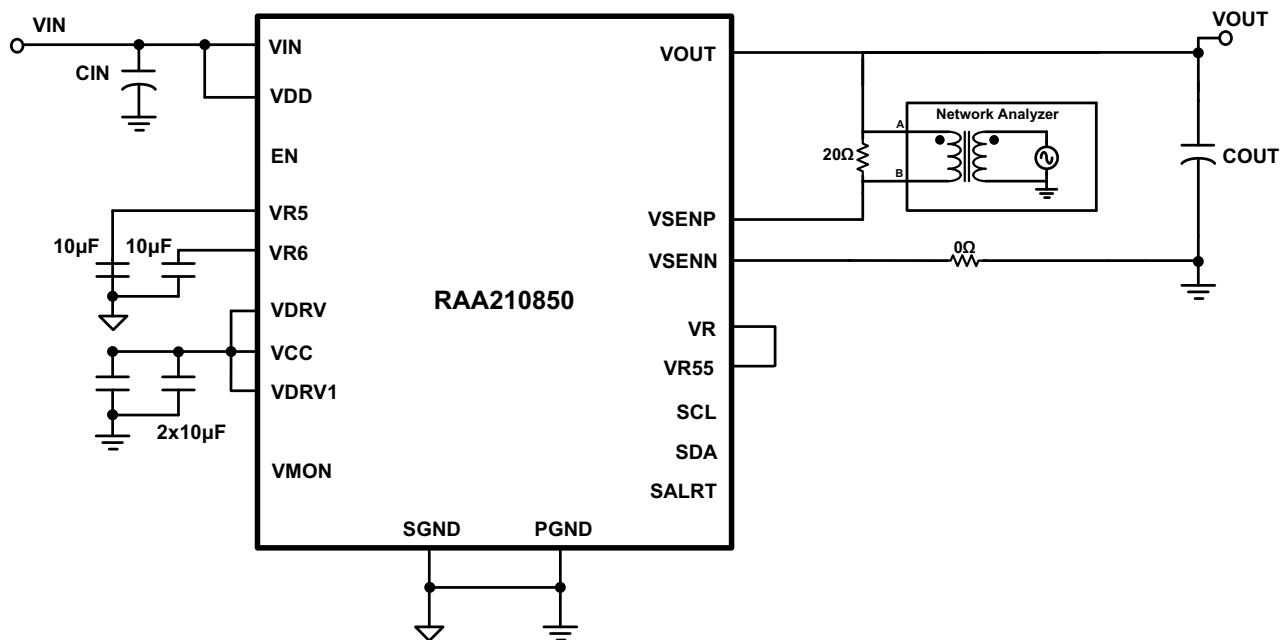

Figure 2. Schematic for Evaluating a Converter Loop Response
- (1) Break the feedback loop by removing the R₁₀ resistor in remote sense path, connected between VSEN and VOUT.
- (2) Solder a 20 Ω resistor in its place. The value of the resistor could be in the range 10 Ω to 50 Ω .
- (3) Solder a twisted wire pair to the 20 Ω resistor. Ensure that the wires are short in length. A small twisted pair works well by minimizing noise pickup, which is important for a good measurement.
- (4) Enable the converter.
- (5) Use a Network Analyzer to inject a small AC signal (~20mV) across the 20 Ω resistor as shown in Figure 2 on page 7.
- (6) Measure the amplitudes of the signals at points A and B as shown in Figure 2.
- (7) Sweep the frequency using the Network Analyzer to observe the bandwidth and the phase and gain margins.